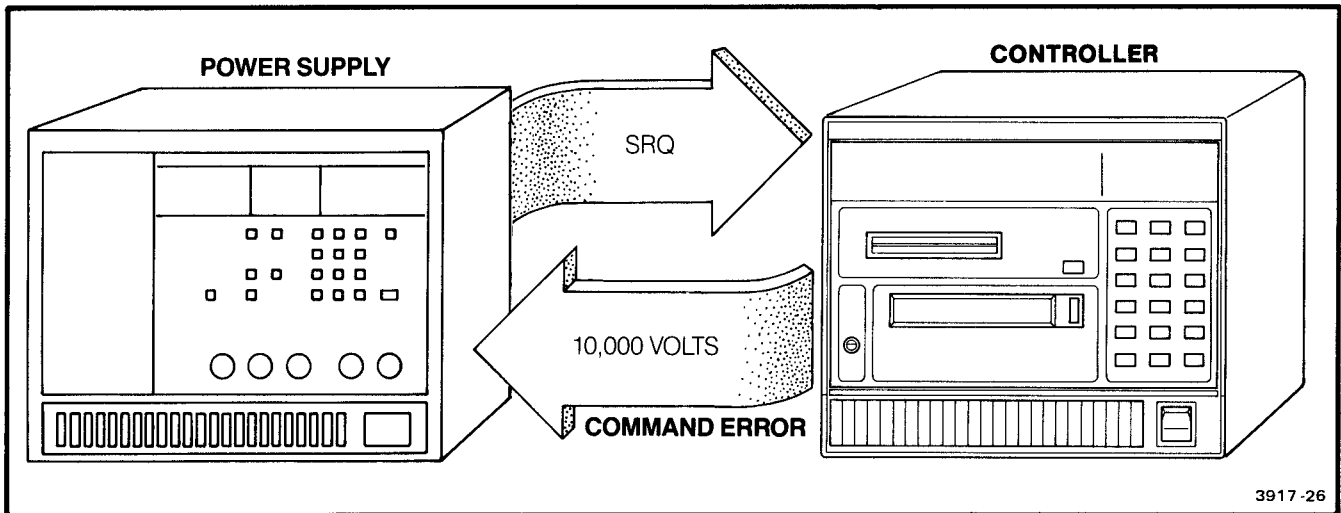

Figure F-5. Devices Should Assert SRQ When an Illegal Command is Received.
2. A listening device always handshakes. It does not stop handshaking just because it doesn't understand or can't execute a message. After EOI is received, if the device is confused, it sends out a service request and, when serial polled, notifies the controller that the command cannot be executed as sent (Figure F-5). **UNDER NO CIRCUMSTANCES DOES A DEVICE EXECUTE A MESSAGE IT DOES NOT UNDERSTAND.**